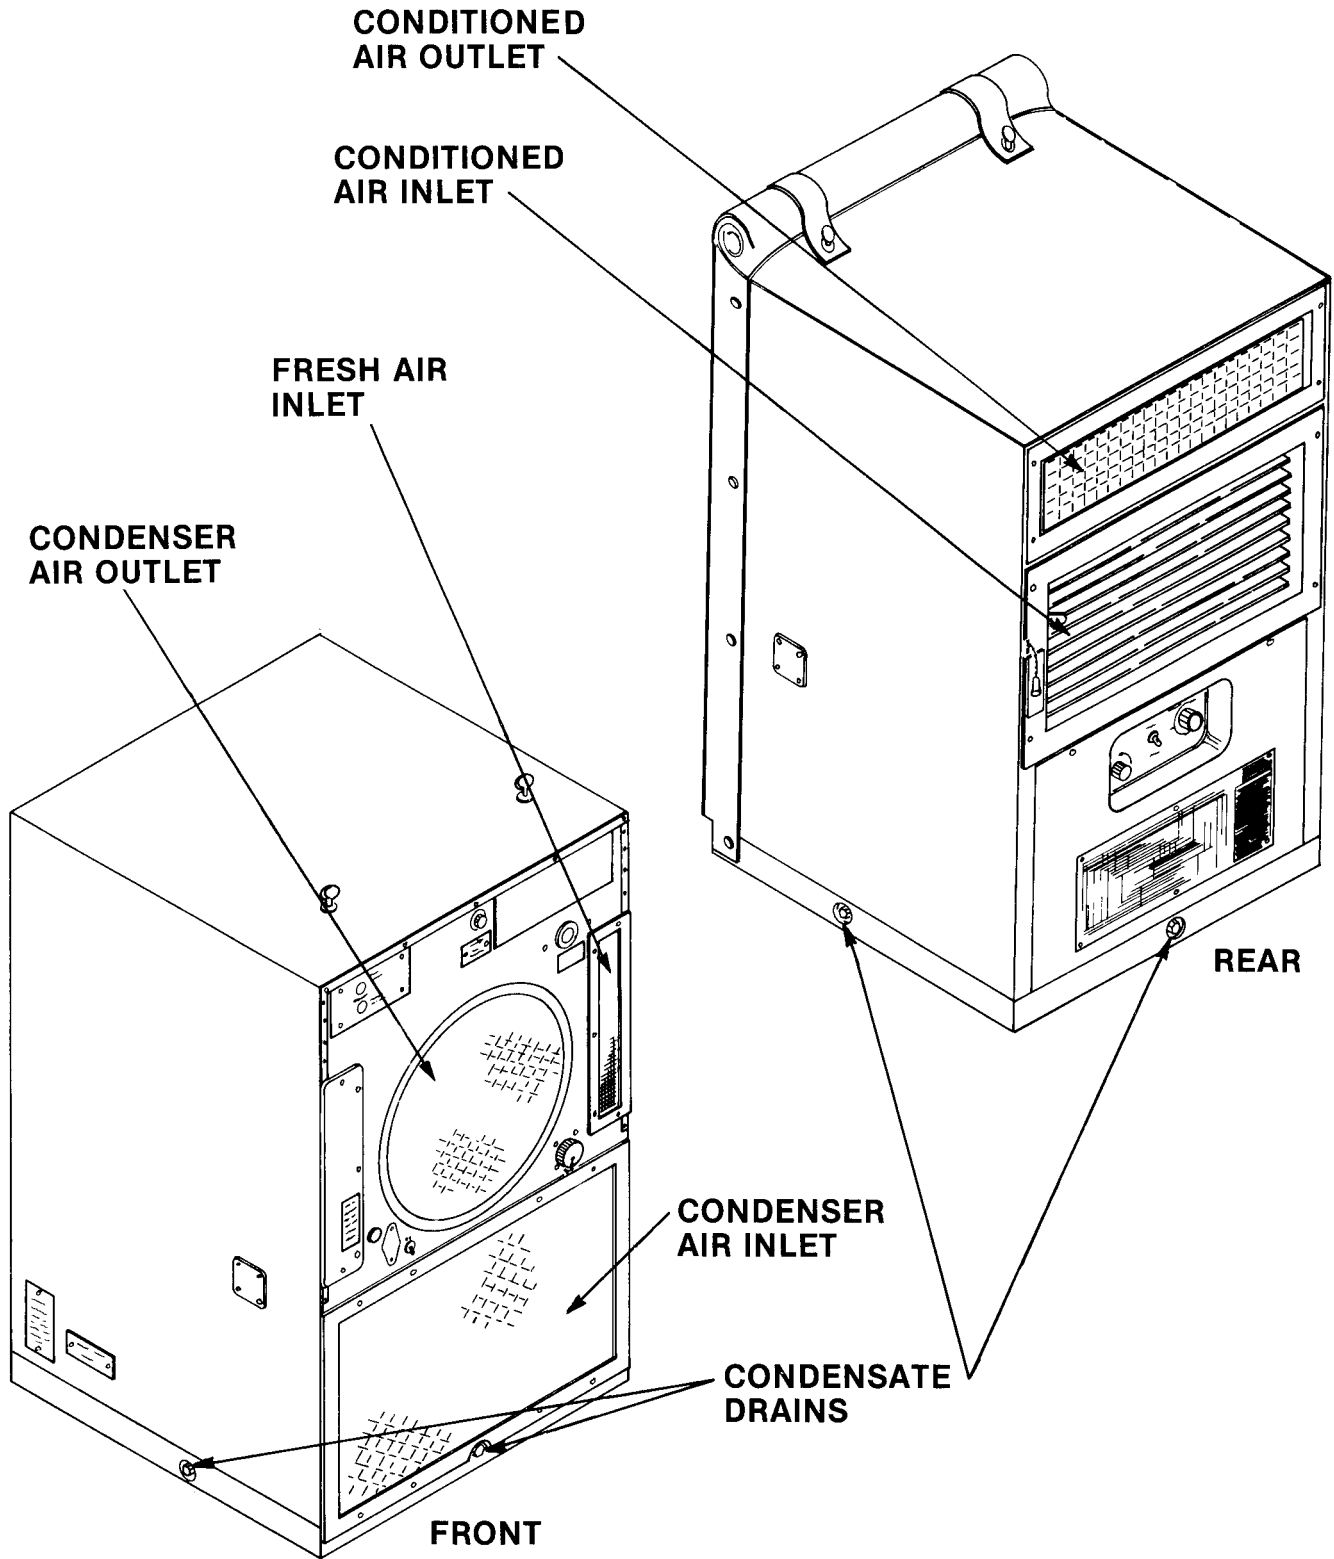

Figure 2-4. Openings and Drains
(3) Check that all air inlet and outlet openings are clear (fig. 2-4).
(4) Check that drains are either open or piped to a satisfactory location with a proper drain system.
(5) Table 2-2 lists the recommended control settings for the desired mode of operation. Minor adjustments may be made to get the desired mixture of recirculated and fresh air and the air flow patterns of conditioned air.